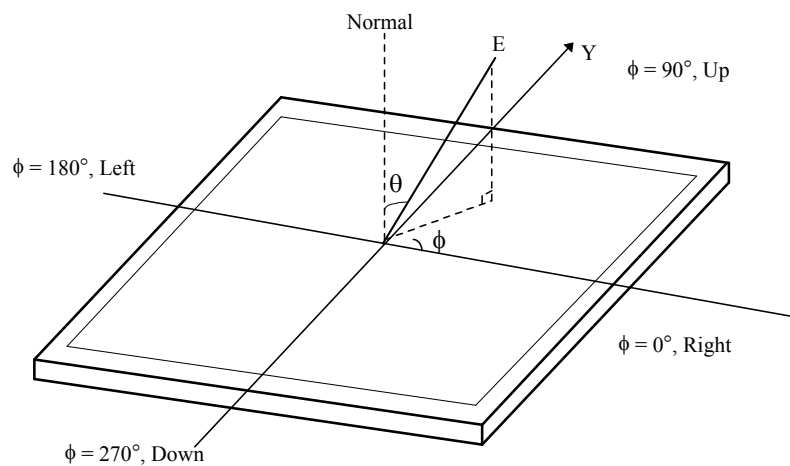

FIG. 4 Viewing angle
5. **Viewing angle** is the angle at which the contrast ratio is greater than 10 or 5. The angles are determined for the horizontal or x axis and the vertical or y axis with respect to the z axis which is normal to the LCD surface. For more information see FIG. 4 .